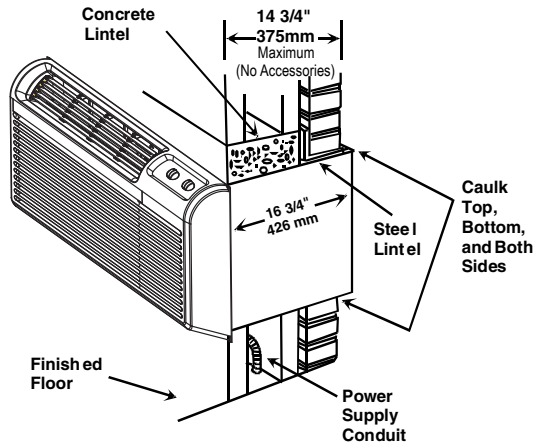

Figure 10
- Provide adequate sealing and insulation around the sleeve after it is installed. See Figure 10 for one example of construction.